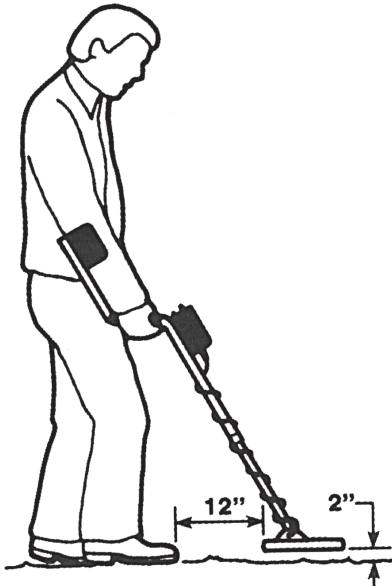

Figure 2.
3. Adjust the stem length and coil angle so that the searchcoil rests flat on the ground about 6-inches in front of, and slightly to the right of, your right foot (for left handers, to the left of your left foot). Your arm should be straight and relaxed with your grip held loosely (see Figure 2).